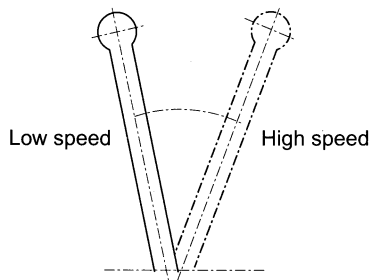

Figure1-18 Positions of control lever
1.5.6 Control Lever For High-Low Speed (Figure 1-18 & 1-19)